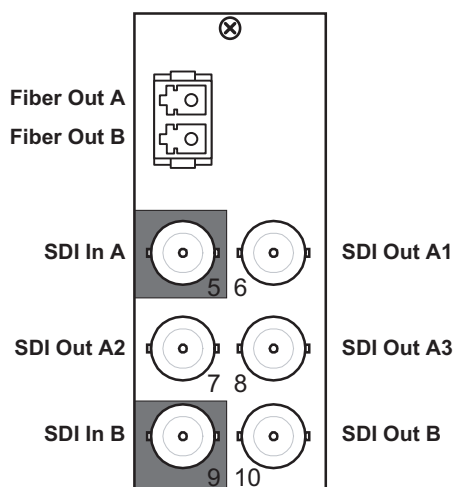

Figure 2.3 FDT-6604 — 8320AR-044 Cabling
- Refer to **Figure 2.3** for connector location.
Each rear module occupies two slots and accommodates one card. This rear module provides two optical outputs, two SDI inputs, and four SDI outputs. Refer to **Figure 2.3**.